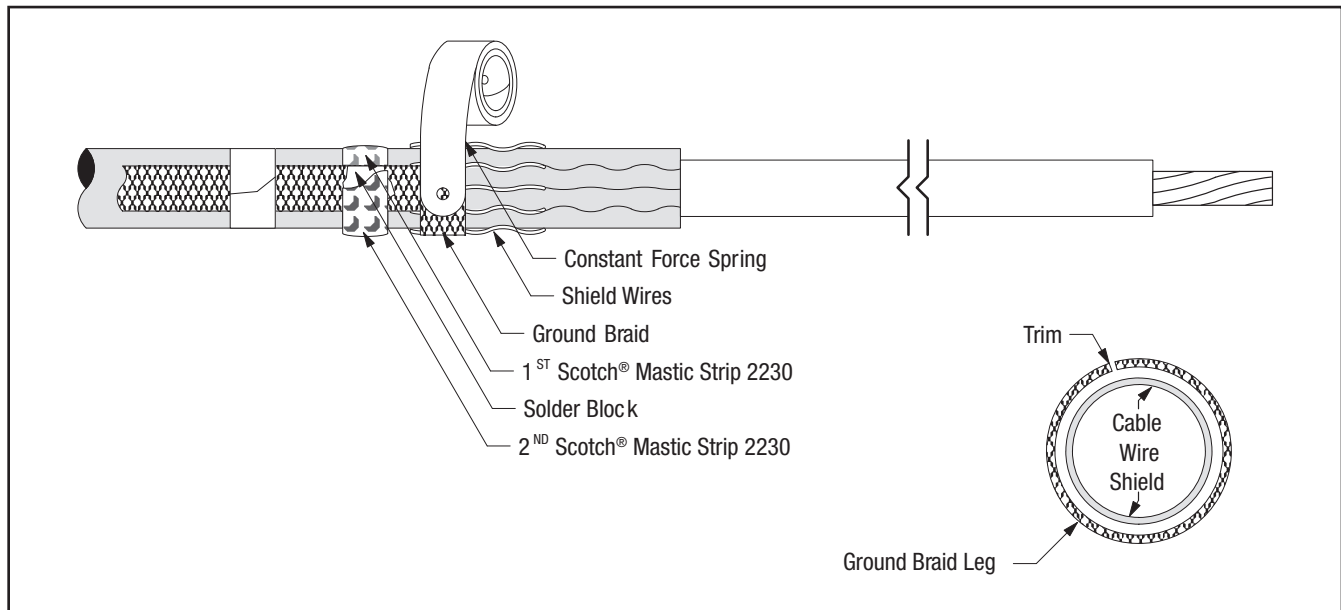

Figure 21
- 13.3 Wrap ground braid around cable shield wires one complete wrap, trim excess to prevent overlap and secure in place with constant force spring. Wrap spring in same direction as ground braid (Figure 21). Cinch (tighten) the spring after wrapping the final winding.
- 13.4 Select second Scotch® Mastic Strip 2230 from kit and remove white release liners. Apply a second SINGLE WRAP of mastic over solder block on ground braid and previously applied mastic (Figure 21). Cut off excess.